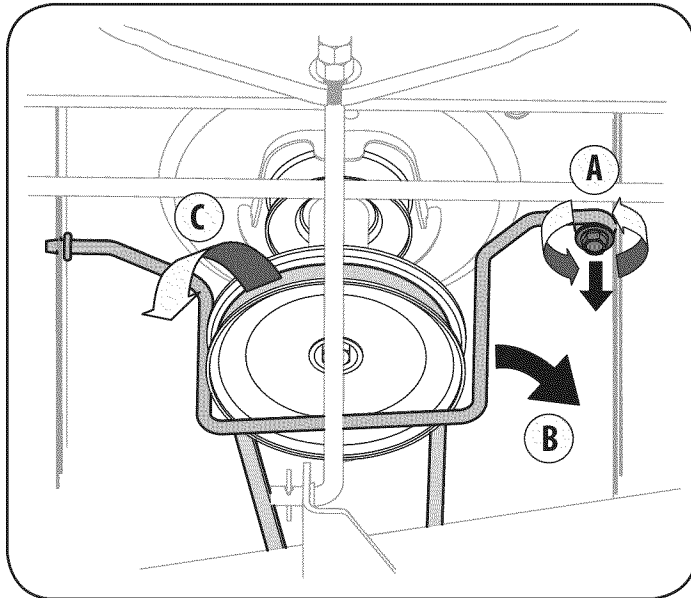

Figure 18
3. Remove the self-tapping screw (A) that secures the belt-keeper rod from around the tractor's PTO pulley, then remove the belt keeper rod (B). See Figure 18.
4. Remove the belt (C) from around the tractor's PTO pulley. See Figure 18.